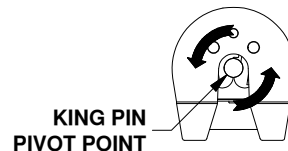
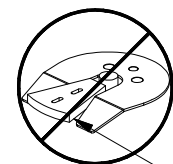

Figure G1: Top view of coupler.
Figure G2: Coupler with locking wedge.
**WARNING:** Do not use the Companion 5th wheel hitch with any device that changes the location of the king pin pivot point. The king pin on your trailer must rotate in the jaws of the Companion coupler, see Figure G1. Preventing the king pin from rotating within the jaws of the Companion coupler with a wedge, see Figure G2, or any other device, such as a Reese Sidewinder® or Reese Revolution®, could result in property damage, serious injury, or death.